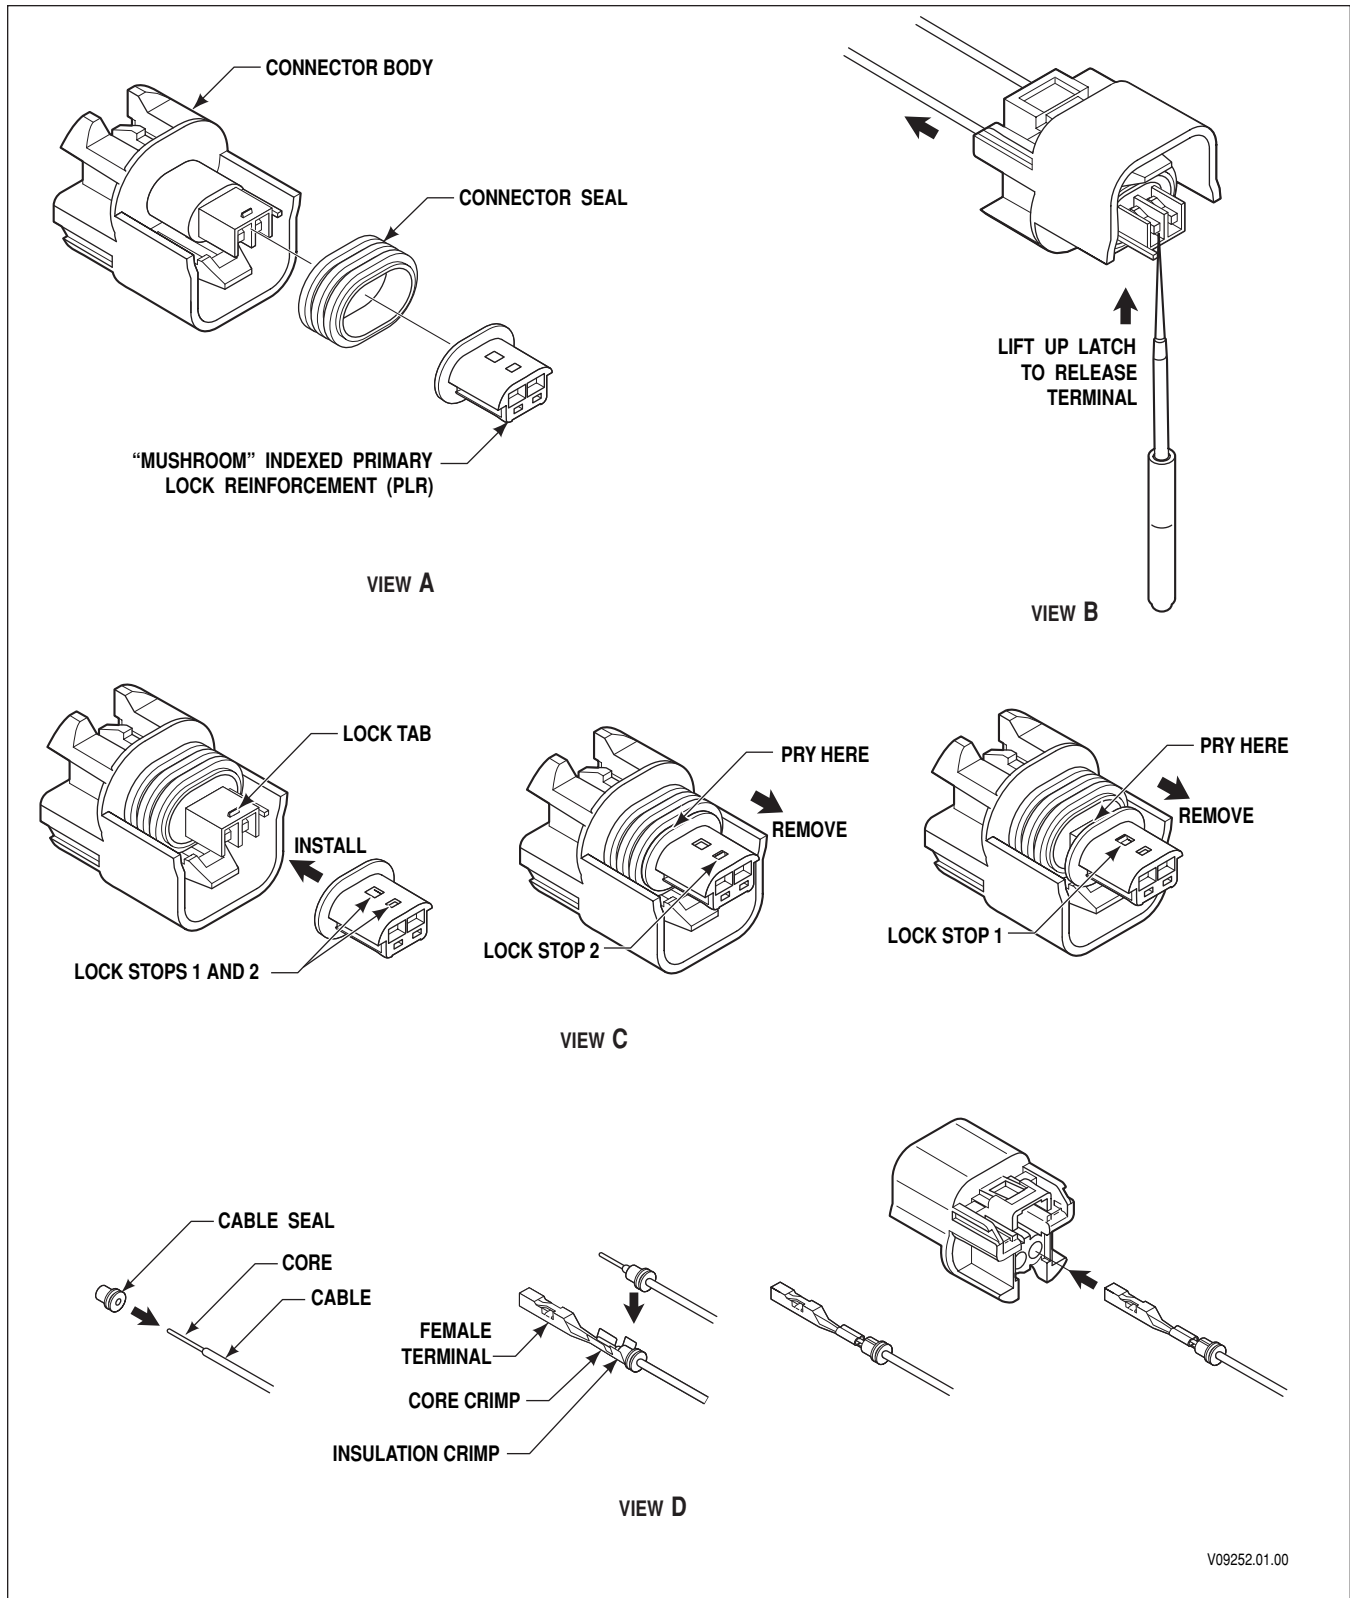

Figure E-5B. Delphi-Packard GT 150 Series Connectors—Push-to-Seat (Speed Sensors)
3. Insert a small screwdriver between the interfacial seal and the Primary Lock Reinforcement (PLR) (refer to Figure E-5B), gently pry up to remove the PLR. Insert the end of removal tool J 38125-12A under the terminal locking tab and lift to unlock the terminal. Pull on the wire from behind to remove wire and terminal.